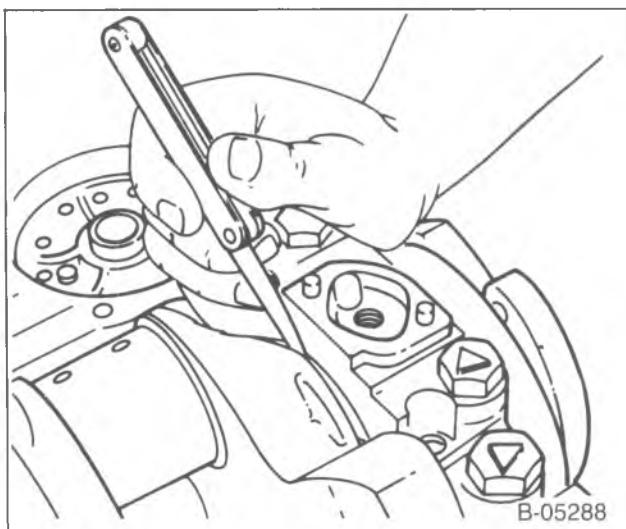

Figure 55—Measuring Crankshaft End Play
1 Measure (Figure 55)
2. With the crankshaft forced forward, measure at the front end of the rear main bearing with a feeler gage (figure 55). The proper clearance is 0.002–0.006-inch (5.0L and 5.7L engines), 0.006–0.010-inch (7.4L engines).